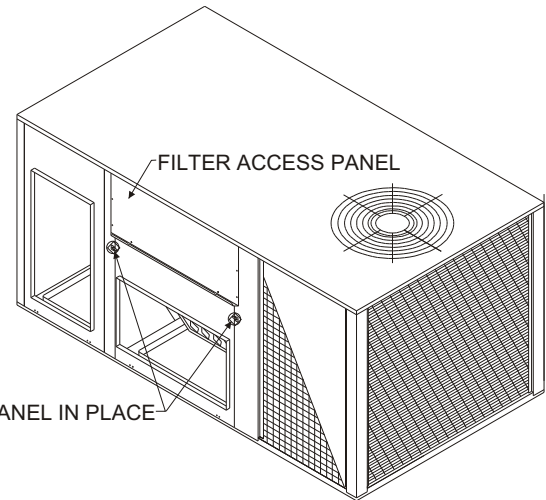

Figure 3
- Take the two clips and place one on each side of return panel and using a screw from the unit posts to secure so tab is over return panel. **See Figure 3.**
- Attach filter access panel, above return air opening, flush with top panel. With panel firmly against flanges, install screws provided and tighten securely. **See Figure 3.**